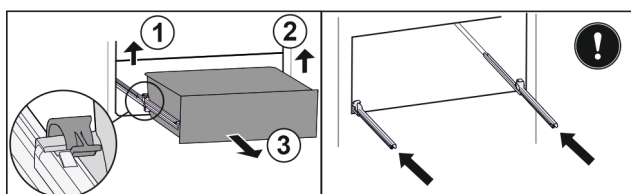

Fig. 38*
- ▶ Lift the left clamp and simultaneously pull the drawer on the left to the front *Fig. 38 (1).**
- ▶ Lift the right clamp and simultaneously pull the drawer on the right to the front *Fig. 38 (2).**
- ▶ Remove the drawer to the front *Fig. 38 (3).**